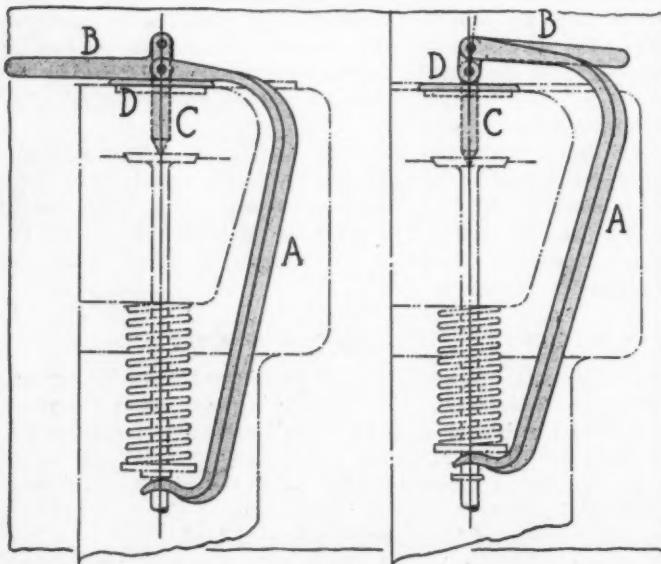

Fig. 1—Peterson valve spring compressor
A. PETERSON, of the service department of the Garford company, New York City, has designed a valve spring compressor by means of which it is possible to raise the valve spring in 10 seconds and have both hands free when the spring is in that position to remove the key. The method of operation of this simple instrument and the principle upon which it operates may be seen in Fig. 1. The compressor consists of four parts:
the left view of Fig. 1 to the position shown at the right. This will cause the spring seat to be lifted up and will leave the pin free to be removed.